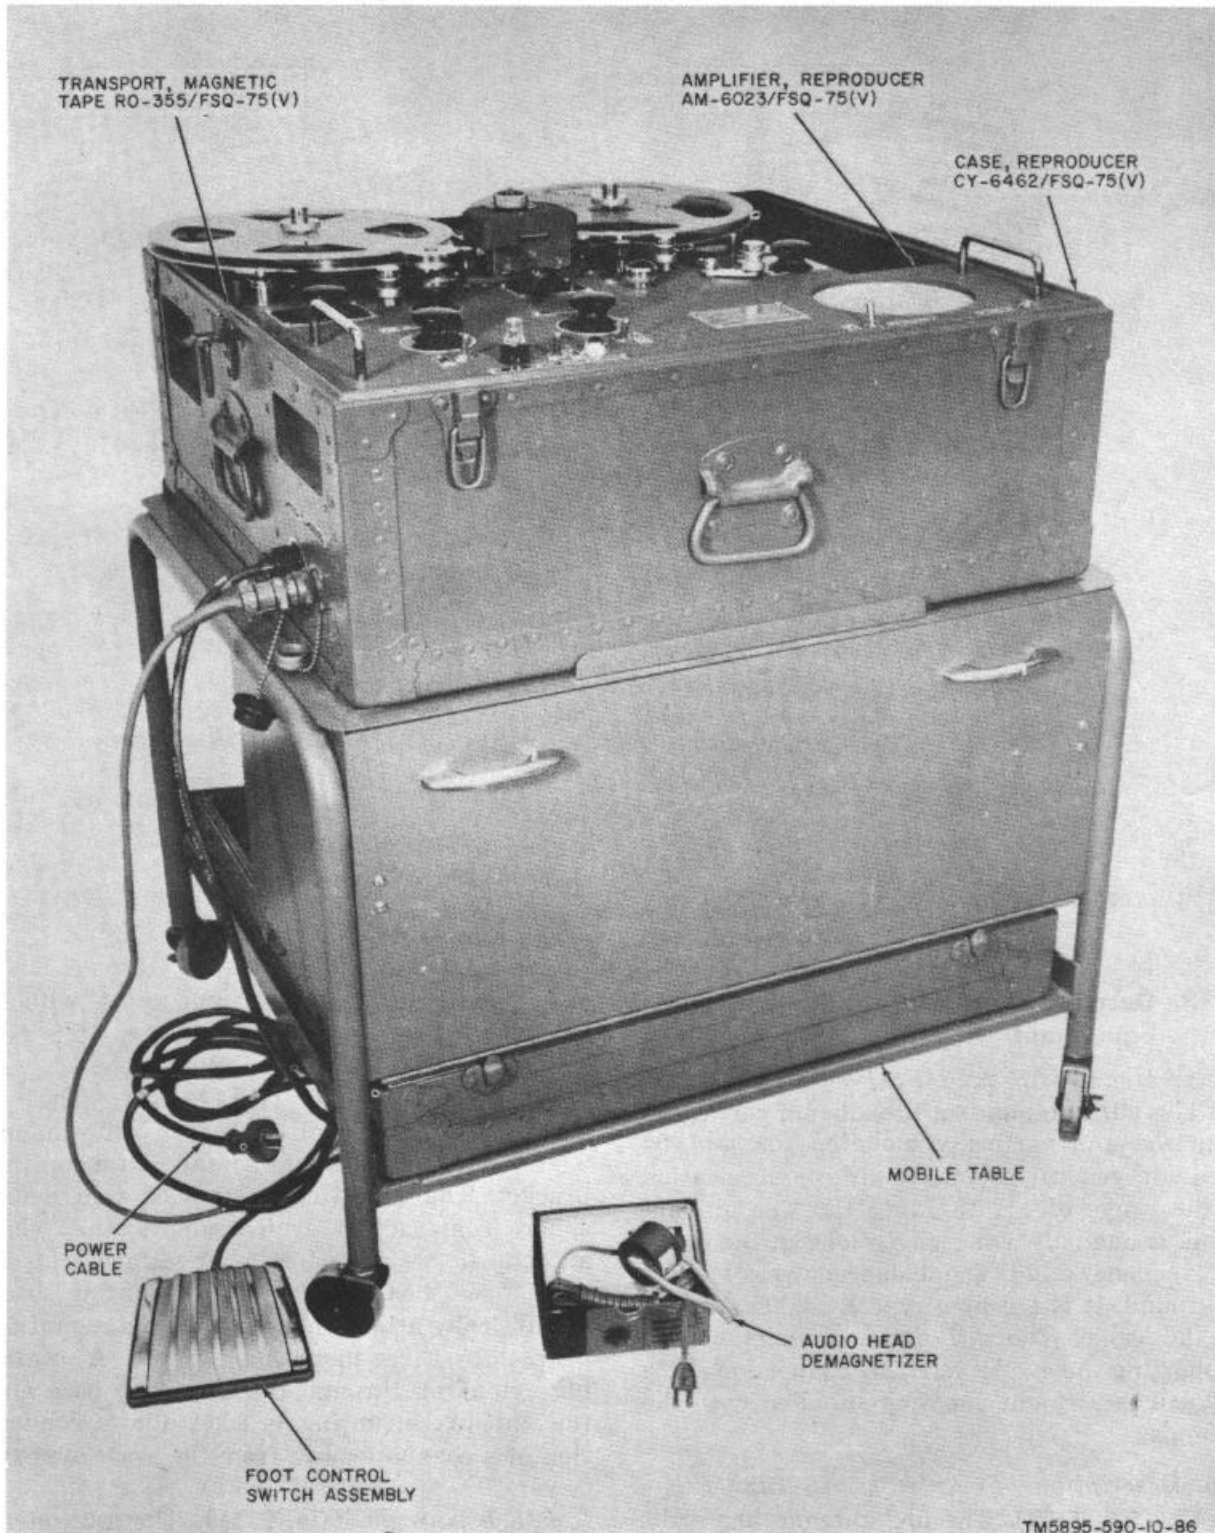

Figure 1-27. Reproducer Group, Sound OA-8427/FSQ-75(V).
r. Reproducer Group, Sound OA-8427/FSQ-75(V) (fig. 1-27). The reproducer is a portable unit which consists of a tape transport and an amplifier panel with a five-channel amplifier. Reproducer equipment is housed in a carrying case and is normally maintained on a mobile table. The carrying case lid may be removed and stowed in a rack at the bottom of a mobile table. Accessories furnished with the reproducer include a foot control switch assembly, a pair of headphones, a power cable, and an audio head demagnetizer. Refer to TM 11-5835-237-12 for a detailed description of the reproducer.